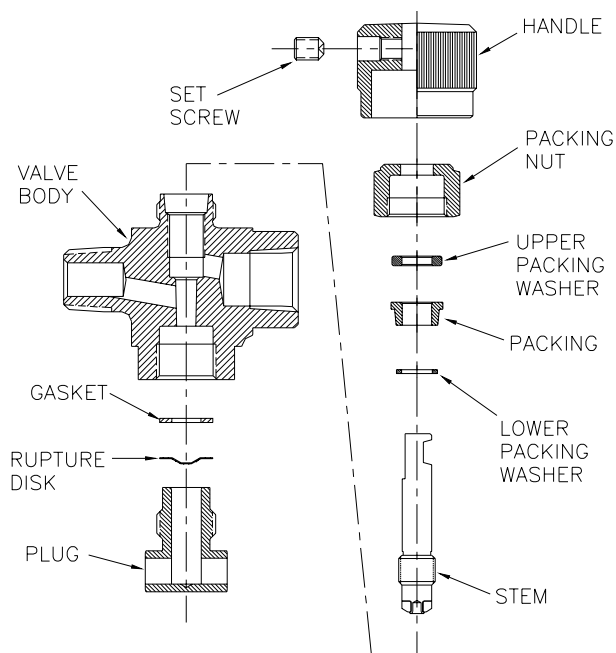

Figure 2: RVCK Series Valve w/ PTFE Packing Exploded View
3. Refer to Figure 2. Remove the Handle by turning the Set Screw counter-clockwise with a 3/32 inch allen wrench.
4. Refer to Figure 2. Locate the Rupture Disc chamber. Install the PTFE Washer (which is packaged with the Rupture Disc) in the Rupture Disc chamber in the Body.